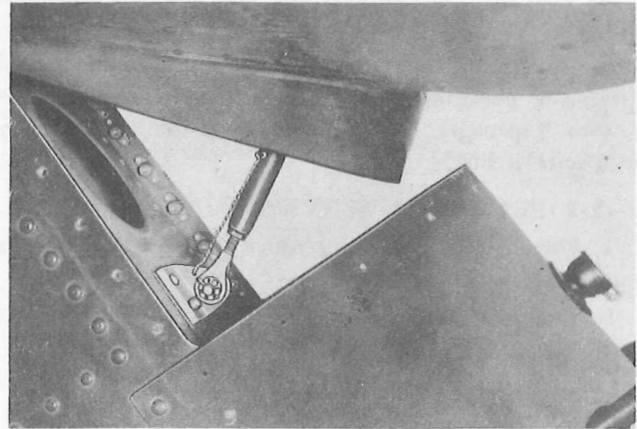

Figure 2-54. Stabilizer Adjustment Turnbuckle
skin. The stabilizer is attached by hinge fittings on the stabilizer aft spar to fittings on the pylon front spar (forward beam). The turnbuckle assembly (figure 2-54), secured at the stabilizer forward spar, is attached by a fitting to the pylon front spar and provides for adjustment of the angle of incidence of the stabilizer. The adjustment is made only while on the ground. A step area, forward and left of the stabilizer attaching point, is reinforced to sustain weight of personnel during maintenance of the tail rotor pylon and pylon equipment.
- b. Cut the lock wire and detach the turnbuckle assembly (figure 2-54) by removing the cotter pin, nut, washers and bolt.
- b. Attach the turnbuckle assembly by installing the bolt, washers, nut and cotter pin. (See figure 2-54.) Secure the turnbuckle assembly to the pylon fitting with lock wire.